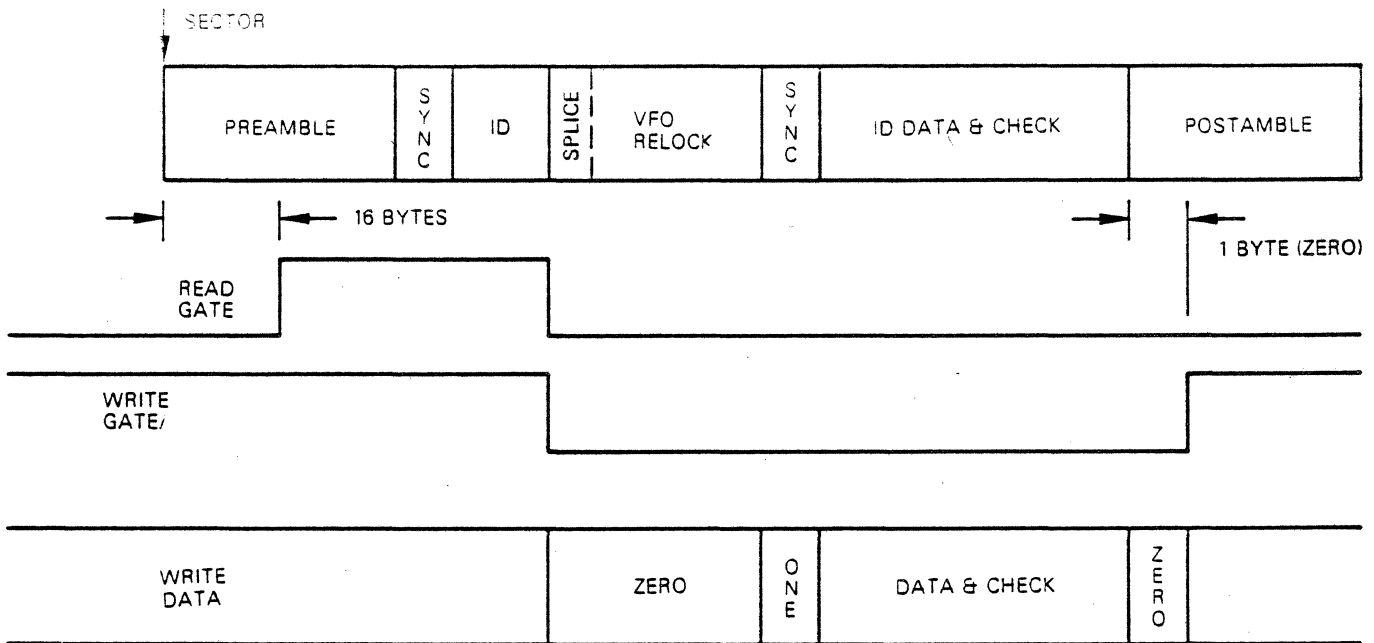

Figure 3-12. Non-Imbedded ID Field Write Timing
3.6.3 Writing (Figures 3-12, 3-13)